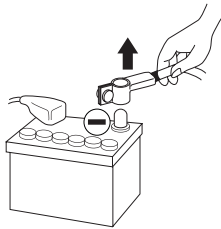

fig. 1
- **Before beginning installation, disconnect the negative battery terminal to avoid risk of injury, fire or material damage.** (Fig. 1)
- 2 - Disconnect the cable from the negative terminal on the vehicle battery before beginning installation (**Fig. 1**).